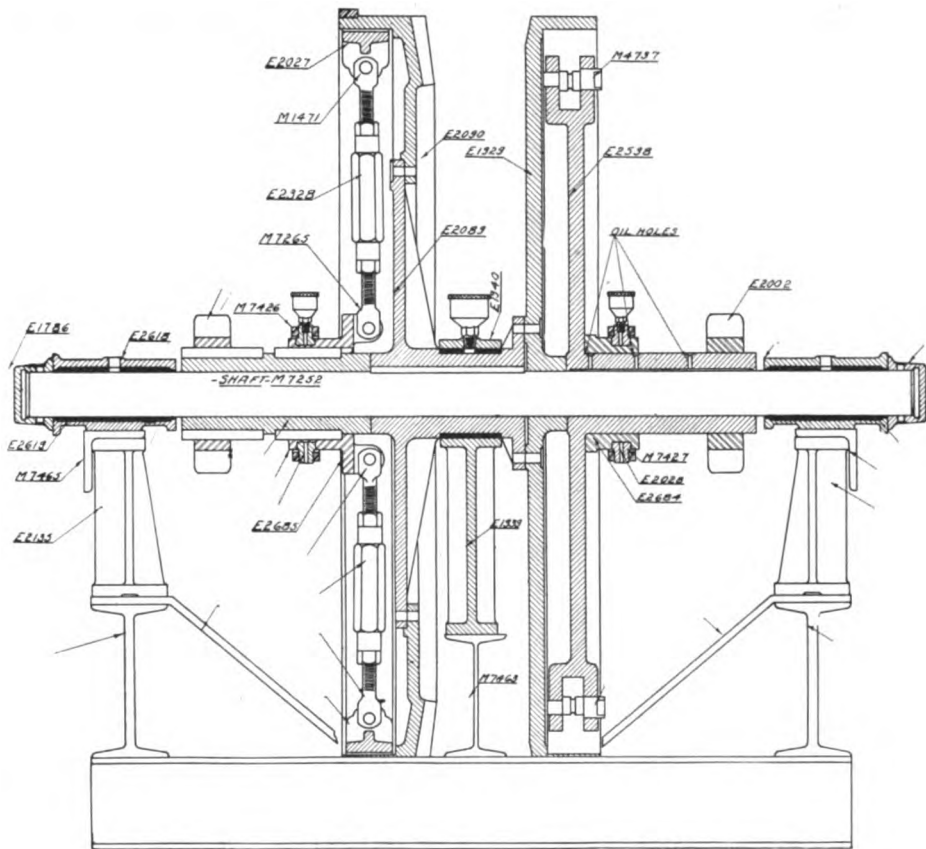

Fig. 43. Countershaft Assembly
- 244 —** The countershaft assembly comprises the countershaft and all the parts that work on it. The countershaft assembly receives its power from the bevel pinion on the transmission through the bevel ring gear E2090. The feature of the countershaft assembly is the ability to throw one side or the other of the track out of motion, enabling the operator to apply all the power of the tractor on one track when required. Fig. 43 shows a cross-section of the countershaft assembly.
249 — The countershaft is supported on three main bearings in which grease cups are fitted. One bearing is at each end of the countershaft and one bearing is on the flanged coupling E2089 in the exact center of the countershaft. A good, medium grade of cup grease should be used and the grease cups should be turned up once every hour. The friction arms rotate over the countershaft and move with it except at such times as one track or the other is thrown out of motion. Little holes are located directly under the friction slide and the clutch has to be thrown to "out" position to apply lubrication. To lubricate these parts, it will be necessary to move the tractor till the oil holes point up. Apply cylinder oil to these holes and be sure that the oil finds its way in, as neglect of this part will cause the friction arm to cut on the shaft M7252. The oil holes are shown on the right half of Fig. 43. Apply oil to these holes under each friction slide once an hour. Bevel ring gear and pinion must be lubricated with "Gear Dope." Place a quantity of "Gear Dope" in small can and place near cylinders. When thin enough to pour, apply an even, thin coat every $2\frac{1}{2}$ hours.